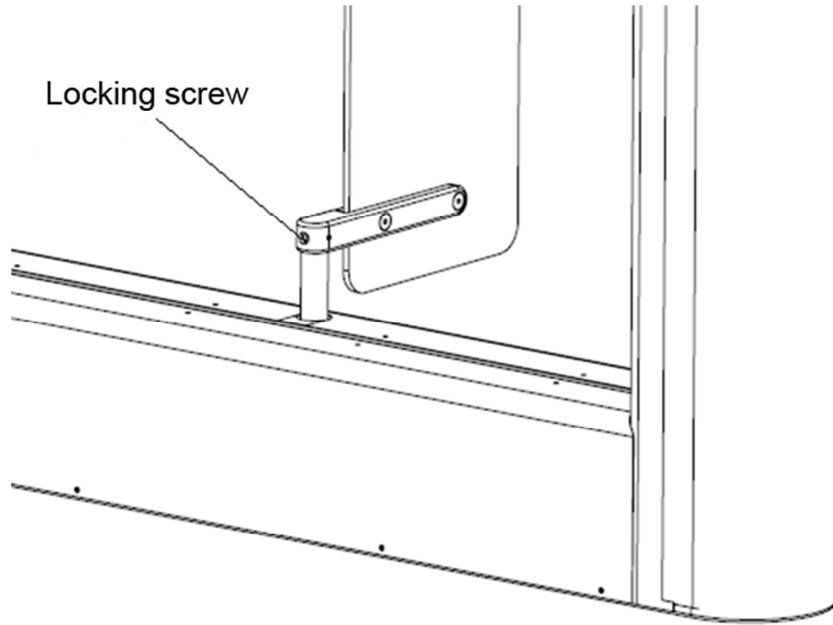

Fig.2 .
- fastening of a locking screw on the lower bracket of wing (Fig. 2);